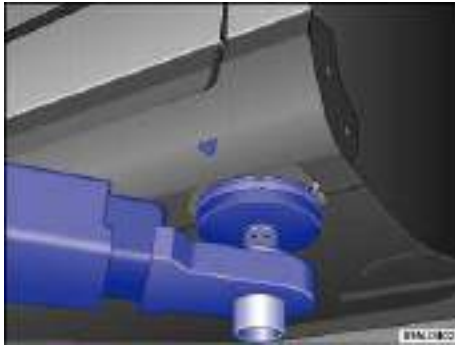
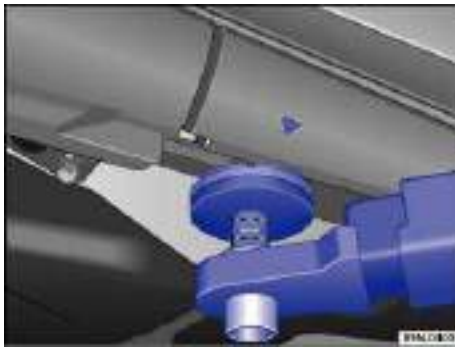

Fig. 175 Front lift point for workshop hoist or floor jack.
Fig. 176 Rear lift point for workshop hoist or floor jack.
The vehicle may only be raised at the lift points shown in illustrations ⇒ fig. 175 and ⇒ fig. 176. If the vehicle is lifted at different points, vehicle damage ⇒ ⚠ and serious injuries may occur ⇒ ⚠.
- Always lift your vehicle only at the designated lift points shown in the illustrations ⇒ fig. 175 and ⇒ fig. 176. Not using the designated lift points can cause the vehicle to fall off the floor jack when heavy parts such as the engine or transmission are removed.